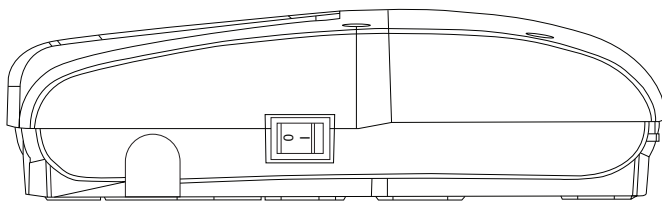
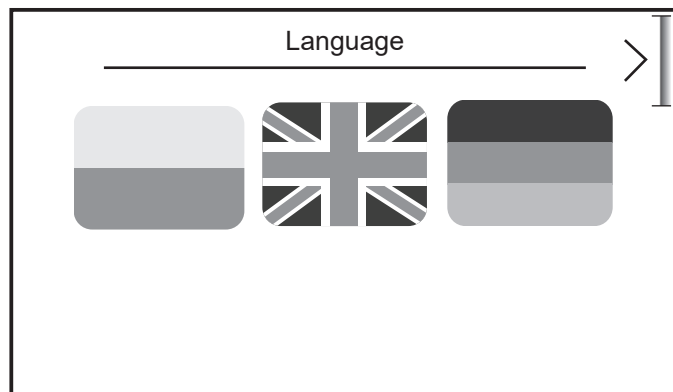

Figure 5-1: Power switch
Figure 6-1: Language selection
1. Turn on the Grant Aeron Smart controller via the wiring centre power switch (Refer to Figure 5-1) and allow the software to cycle to the language selection panel. (Refer to Figure 6-1).